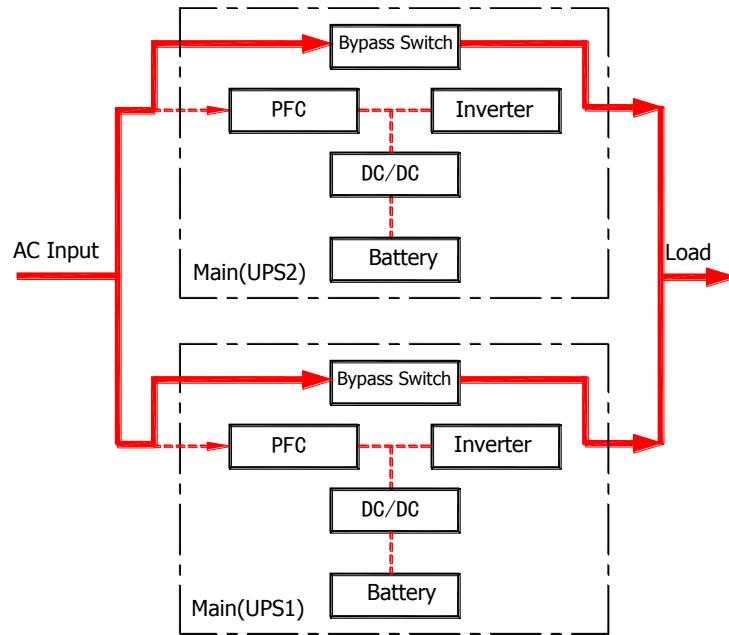

Fig.3.2-4 Working mode of overload
3、Working mode of overload (solid line is Energy flow of UPS) as shown in Fig.3.2-4.